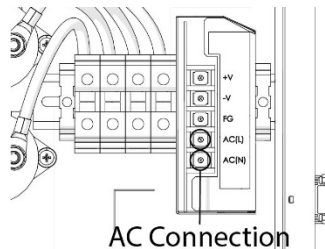

Figure 3-9 – 2 MPPT Zone Unit with the AC Power Supply
Connect AC control power circuit conductors to the power supply at terminals marked AC(L) and AC(N). Shown in Figure 3-9 is the 2 MPPT zone unit with the power supply. The power supply is in a different place in the 1 MPPT zone unit. Use 208, 240, or 277 VAC.